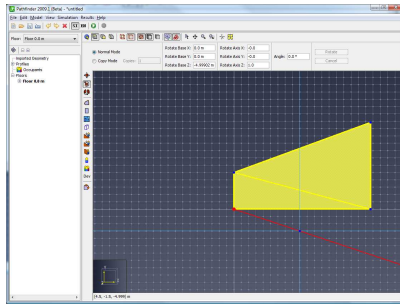

Figure 136. Base point of rotation
- The first specifies the base of rotation (Figure 136).